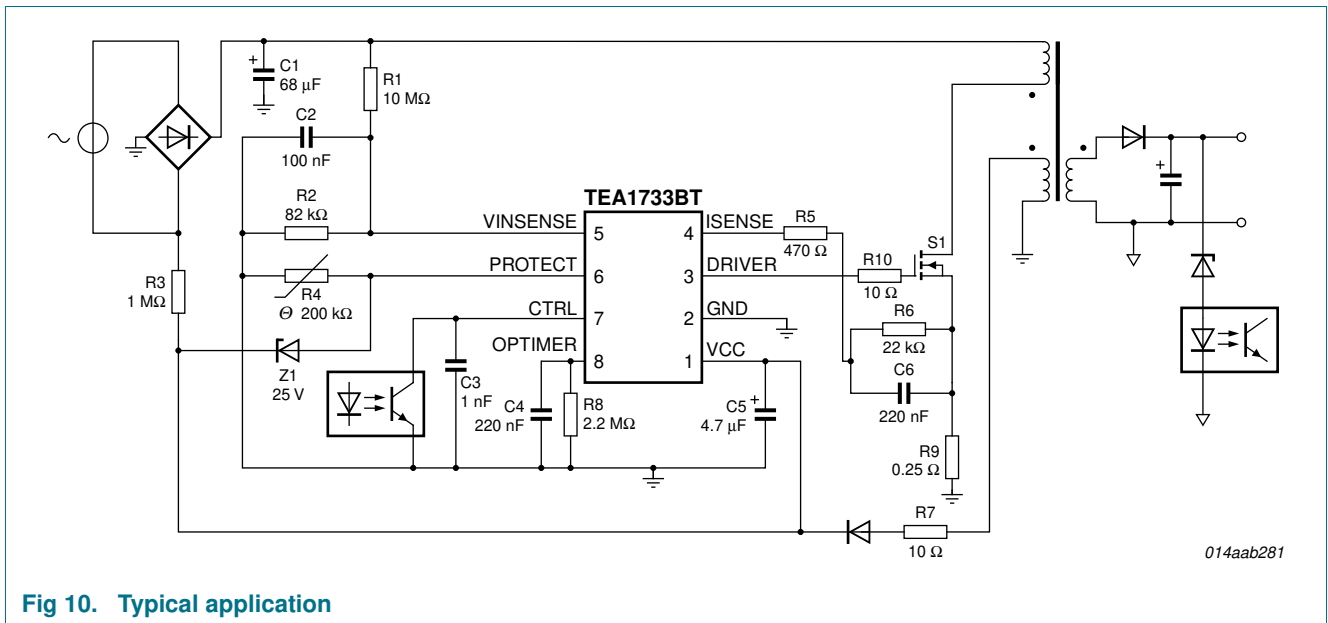

Fig 10. Typical application
A power supply with the TEA1733BT is a flyback converter operating in Continuous conduction mode (see Figure 10).
In the example shown in Figure 10, the PROTECT pin is used for OVP and OTP. The OVP level is set by diode Z1 to $V_{CC} = 25.8\text{ V}$. The OTP level is set by Negative Temperature Coefficient (NTC) resistor R4. The VINSENSE pin is used for mains voltage detection and resistors R1 and R2 set the start voltage to about 80 V (AC). The overpower protection time is defined by capacitor C4 at 60 ms.